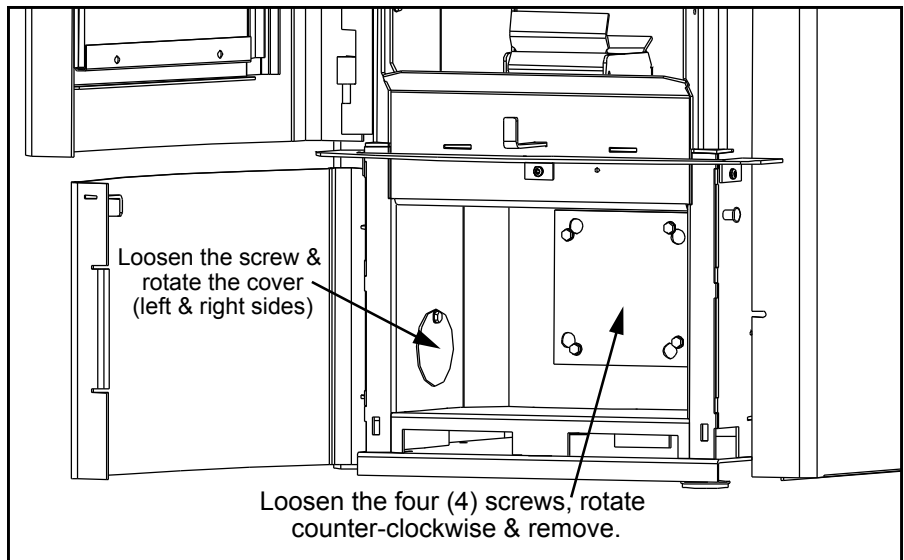

Figure 7: Bern Clean-Out Covers.
- Using a $\frac{5}{16}$ " socket, loosen the six (6) screws in the ash box compartment; four (4) on the back and one (1) on each side (see Figure 7).
- Vacuum out all three (3) chambers.